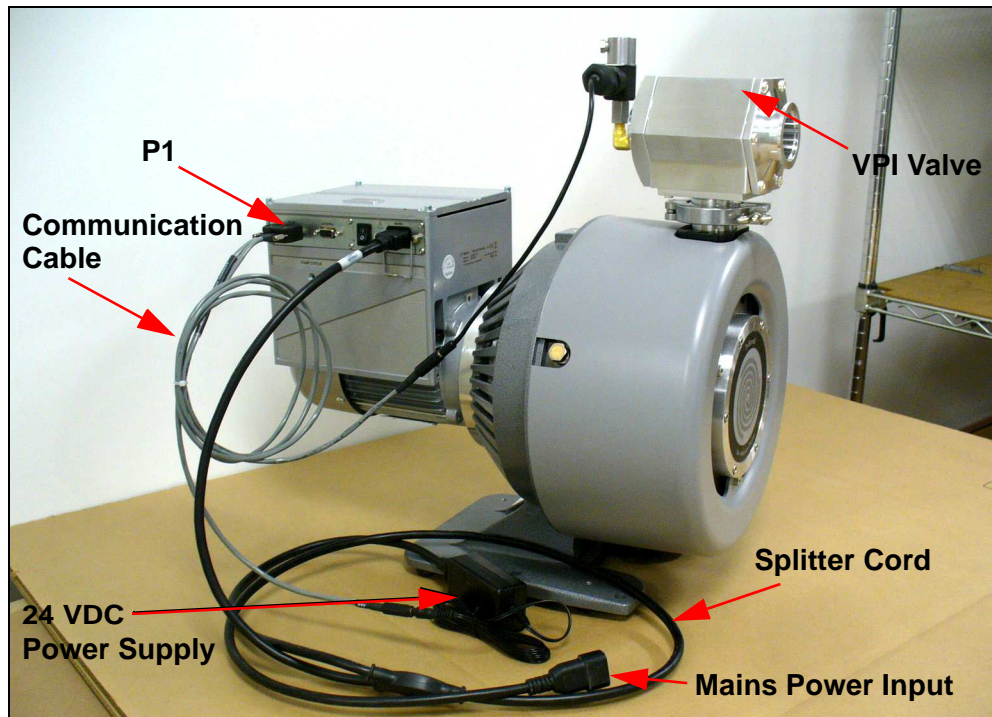

Figure 6 Assembly View and Replacement Parts
These instructions refer to Figure 6. Circled items are replacement parts. Items 1 through 4 are part of the Piston Assembly (see Section 3.6 “Replacement Parts” on page 31).
1. Remove the diaphragm ④ from the piston by unscrewing the sleeve ③ from the piston using a spanner wrench. Inspect the orifices and clean if necessary. Be careful not to enlarge the orifices, because performance may suffer. Inspect the diaphragm ④ for holes, tears, or accumulated contamination. Discard it if damaged.
2. Inspect the dry bushings ② pressed into the sleeve ③. These bushings are normally good for several hundred thousand cycles, but they can be replaced when they have worn out. A worn bushing can be identified by excessive exposure of the sintered bronze matrix, which is not normally visible. A modest amount of lead /PTFE flakes in and around the bushing and pin is normal and does not constitute abnormal wear of the bushing. If there is any doubt about the condition of the bushings, they should be replaced. Remove by inserting a number 10 machine screw and pulling. There are two ¼ in. long bushings used in tandem. After removal of the old bushings inspect the bore in the sleeve ③ for debris and burrs. Clean as necessary. Press two new bushings into the bore, one at a time, flush to the top of the sleeve.
3. To reassemble, place the diaphragm ④ on the piston with the inner bead down and the outer bead up (Figure 6 on page 23). A small amount of vacuum compatible grease should be smeared on the sleeve side of the diaphragm/sleeve contact area to prevent puckering of the diaphragm during tightening of the sleeve. Also, if the piston and sleeve have been degreased prior to assembly, a small amount of vacuum compatible lubrication should be applied to the male threads of the sleeve to prevent seizing of the sleeve to the piston. DuPont Krytox® GPL 206 is acceptable. Tighten the sleeve hand tight. Do not overtighten, this is not a vacuum grade seal.